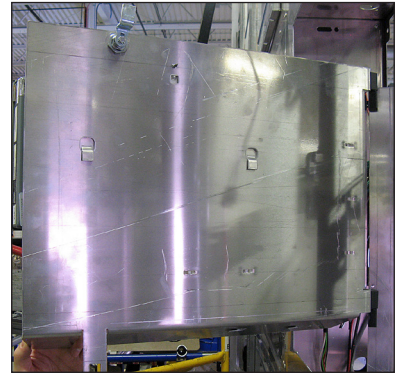

Figure 24: Hinge DMP-8065 Out of Display
3. Pull the DMP-8065 from the right to hinge it out of the way. Refer to **Figure 24**.
7. Pull the DMP-8065 release tab and carefully lift the DMP off of the DMP mounting plate. Refer to **Figure 24**.